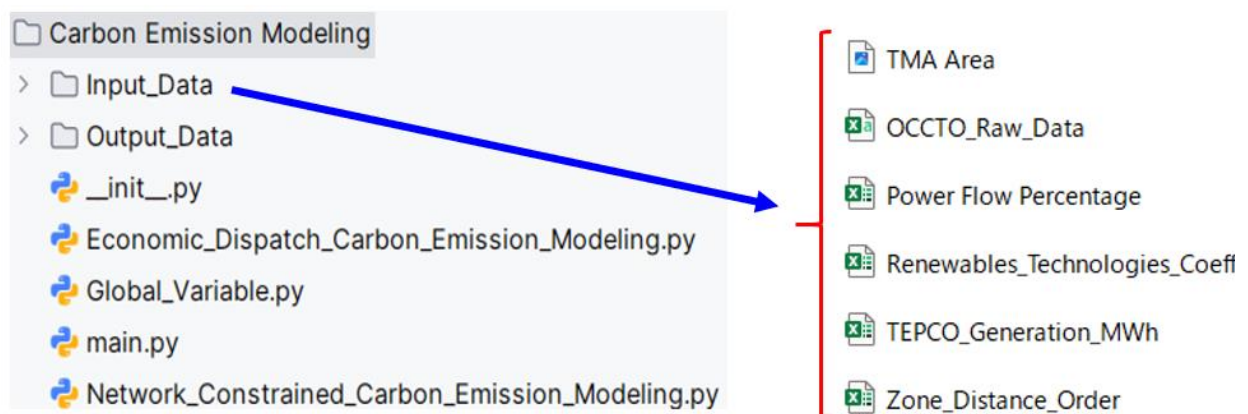

Figure 1: Tree Structure of carbon emission modeling with descriptions
Figure 1 presents the structure of the carbon emission modeling, comprising three Python scripts and the Input_Data folder containing 5 Excel files. Users can modify these input files to customize modeling cases.
- All files inside the output folder, as shown in Figure 1, are updated for the last run.